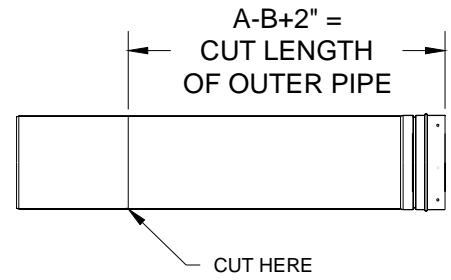

Fig. 19B - DGV - A&B+2"
3. Add 2" to the distance measured previously for the cut length of the **outer** jacket. Mark a cut line on the outer jacket on the male end (the end without holes in it as per Figure 19B).